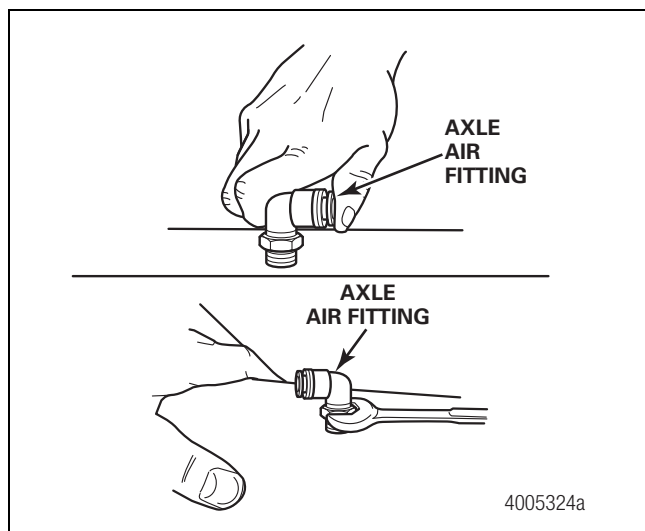
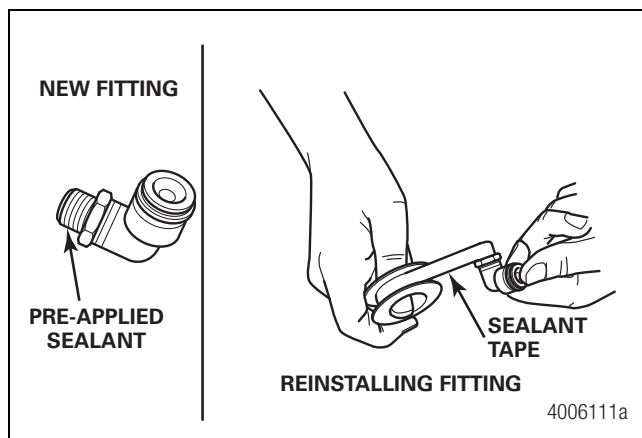

Figure 2.4
Figure 2.5
- Hand-tighten the axle air fitting into the tapped hole. Then use a wrench to tighten the fitting 2-1/2 additional turns to obtain an air tight seal. Continue to tighten until the fitting faces TOWARD the side of the trailer where you'll install the system control box. Figure 2.4. It is not necessary to apply a sealer when the axle air fitting is first installed if current production fittings have sealant pre-applied to the threads. If the part is removed, however, apply a sealant tape to the threads prior to reinstalling. Figure 2.5.